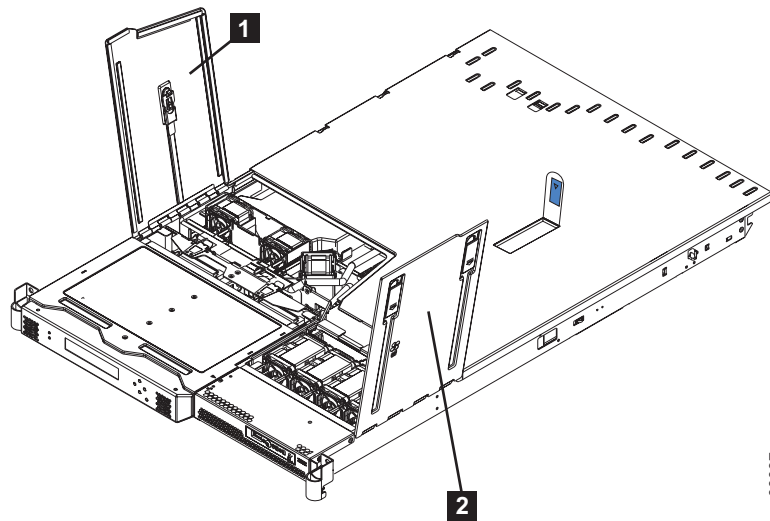

Figure 107. The SAN Volume Controller 2145-8F4 or the SAN Volume Controller 2145-8F2 with fan doors open
4. Close the fan door (1 in Figure 107) and replace the node in the rack.